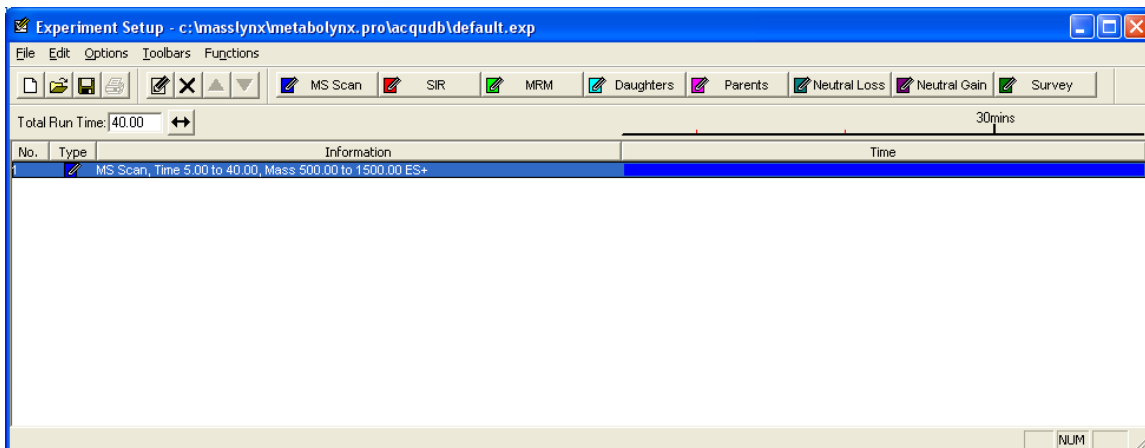

Figure 2-8 MS Method Editor
1. In the MassLynx window, click the MS Method icon to open the MS Method Editor (Figure 2-8).